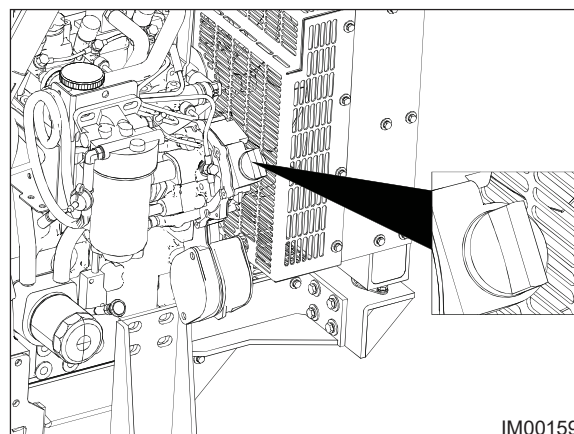

Fig: 11.16 - Filler Cap
2. Remove the Oil Filler Cap (Fig: 11.16).